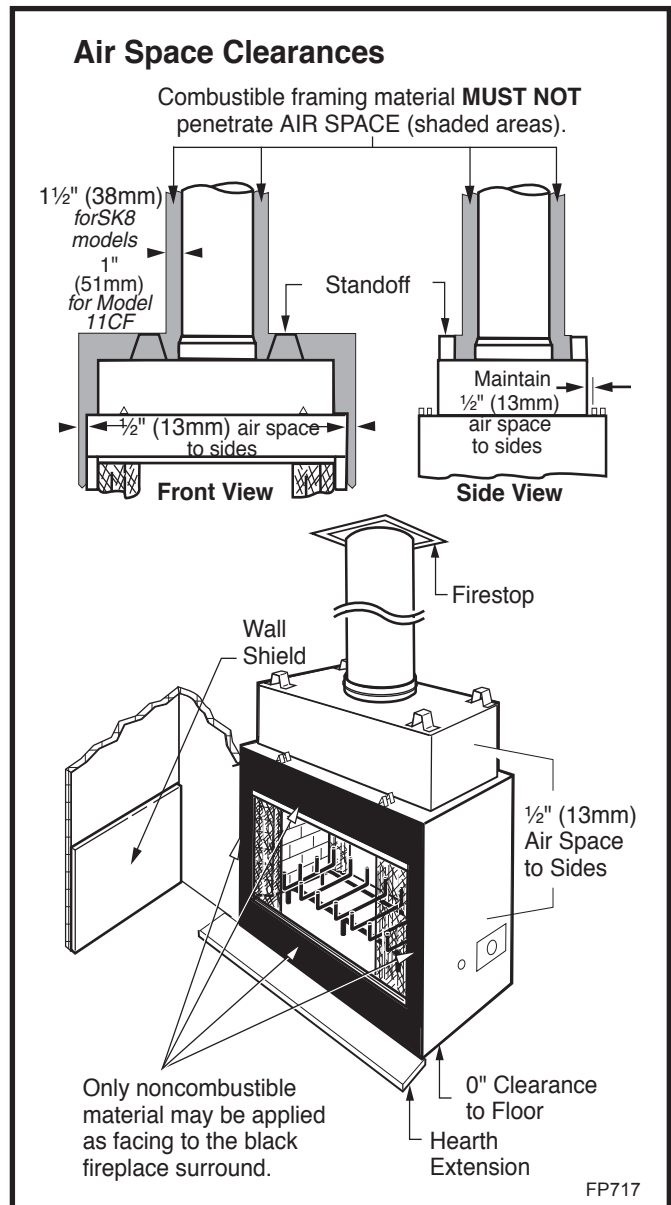

Fig. 20 Minimum clearances to combustibles.
There must be an air space (1½" (38 mm) with SK8 and 1" (25 mm) with 11CF) between outermost portion of chimney sections and any adjacent combustible surfaces. (Fig. 20) (Combustible surfaces include burnable materials such as: ceiling members, joists, flooring, combustible insulation and roof structures.)
CAUTION: All joints between the finished wall and the fireplace surround (top/sides) must be sealed with non-combustible material to prevent cold air leakage into the room. Only noncombustible material may be applied to the facing of the fireplace surround. (Black painted area) (Fig. 20)
NOTE: No side wall protection is required for fireplaces installed at 45° to two (2) side walls (corner installation). Adjacent combustible side walls that are within 16" (406 mm) (STR33/36) and 20" (508 mm) (STR42) of fireplace opening must be protected with MHSC Wall Shield Model SP40 or a specifically built wall shield described in Figure 20 & 24.
All joints (top, bottom and sides) where wall or decorative facing material meets fireplace surround must be completely sealed with a noncombustible material. (Figs. 20 and 24)
The special wall shield design described in Figure 20 is an alternate method of adding protection to side walls and can be used in place of the SP40 with the same wall clearances specified for the SP40. Rt must =1.85 minimum.